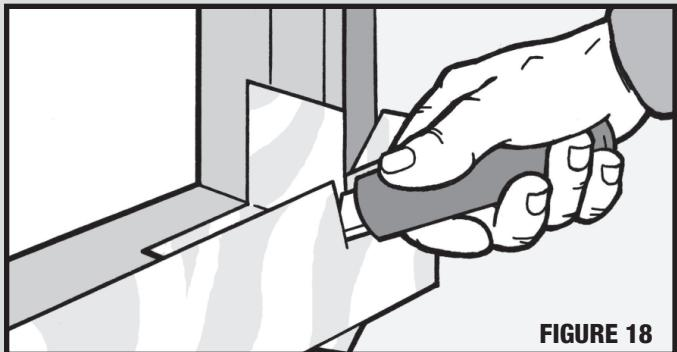

FIGURE 18
Step 9. Slit sill base flashing. With utility knife use the jambs as a guide and slit the flashing to the sill. (Figure 18)